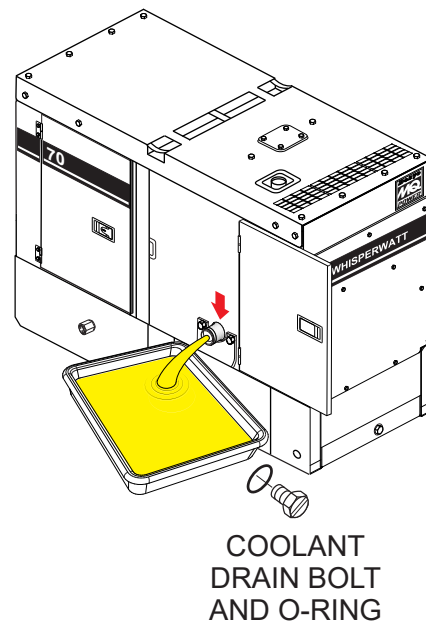

Figure 92. Draining Radiator Coolant
2. Open the cabinet door and remove the coolant drain bolt and O-ring (Figure 92), then allow the coolant to drain into a suitable container.